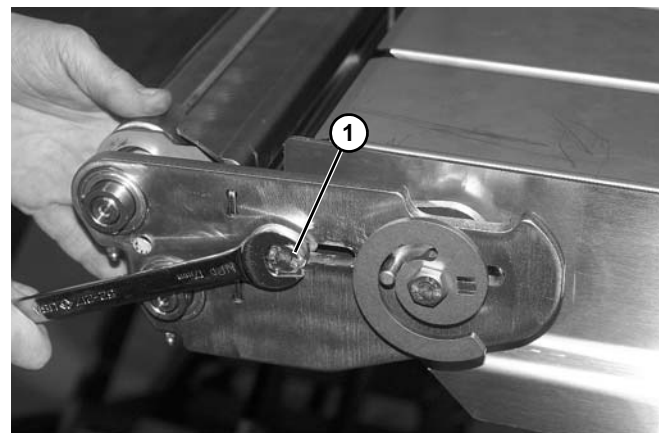

Figure 160
5. Loosen headplate screw (**Figure 160, item 1**) on each side.